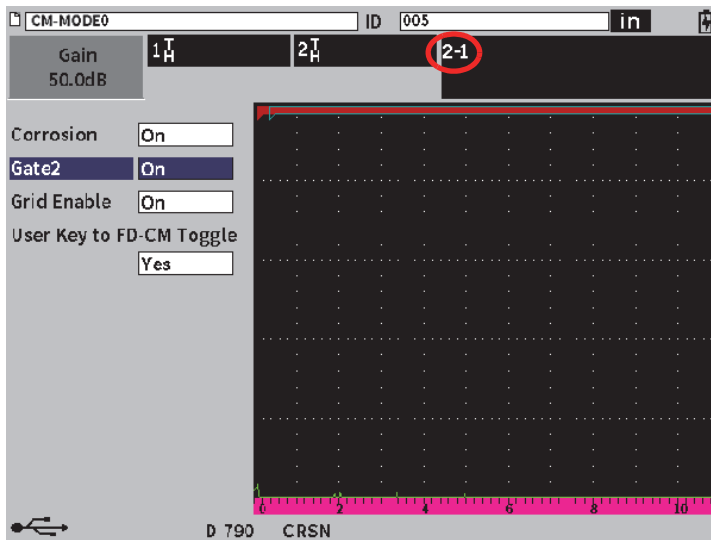

Figure 11-41 Corrosion dialog box
1. In the corrosion module () **Corrosion** dialog box, set **Gate2** to **On** (see Figure 11-41 on page 202).